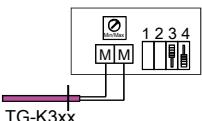
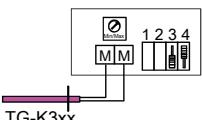

Figure 8 Switch setting and wiring of minimum limit sensor.
Figure 9 Switch setting and wiring of maximum limit sensor.
- Terminals M and M = Minimum/maximum limit sensor, not polarity sensitive (*Figure 8* and *Figure 9*)